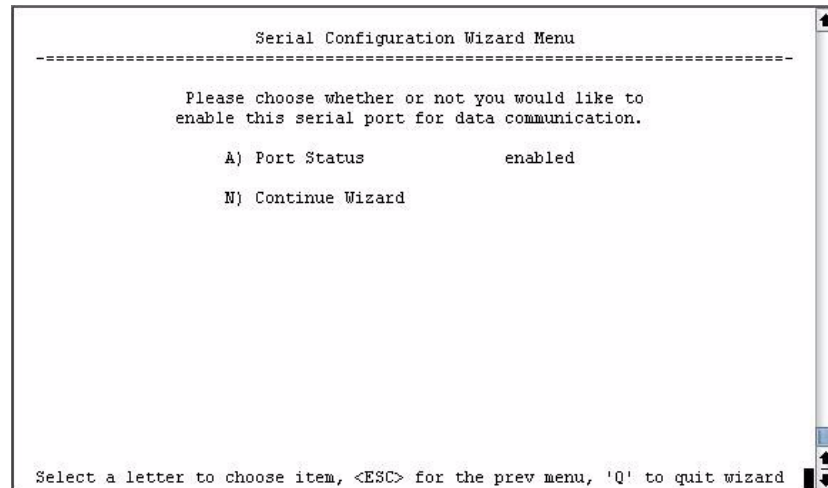

Figure 3-58. Serial Port Status Screen
- On the next screen (Figure 3-58 on Page 91), select **A** and use the spacebar to enable the serial port for data communication. Press **N** to continue the wizard.